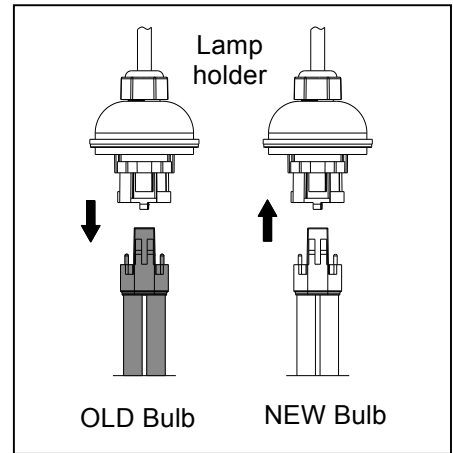

Fig. 15
- Carefully remove the old bulb by firmly pulling on the base. Carefully install the new bulb. Fig. 15